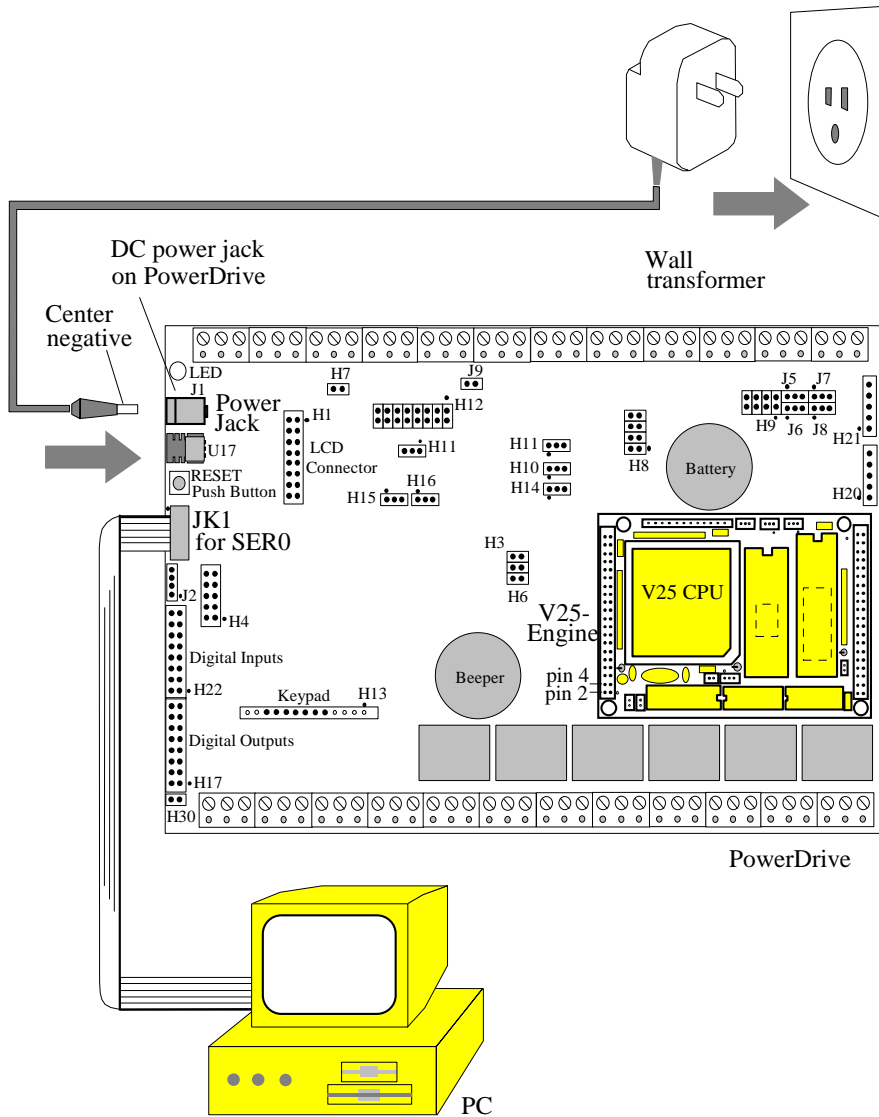

Fig. 2.2 Connection of the center-negative wall transformer to the PowerDrive™
3. Connect the output of the center negative wall transformer (+9V DC) to the PowerDrive™ DC power jack J1 (Fig. 2.2).